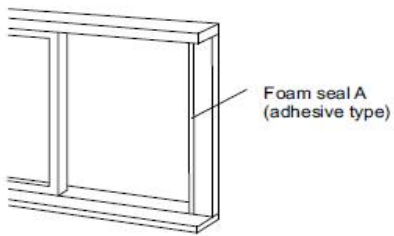

Fig. 14
2. Cut the foam seal (adhesive type) to the proper length and attach it to the bottom of the door / window. See Fig.14.